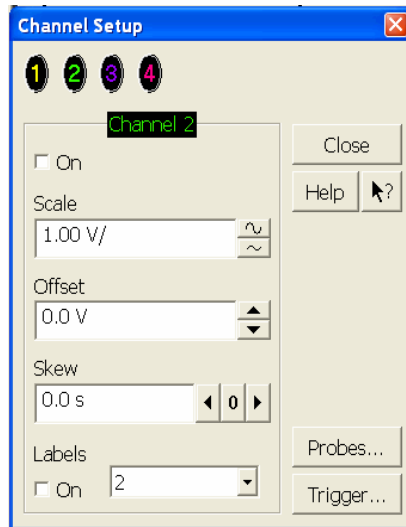

Figure 18 Channel Dialog Box
- 2 In the Channel Setup dialog box, select the Probes... button, as shown in Figure 18.